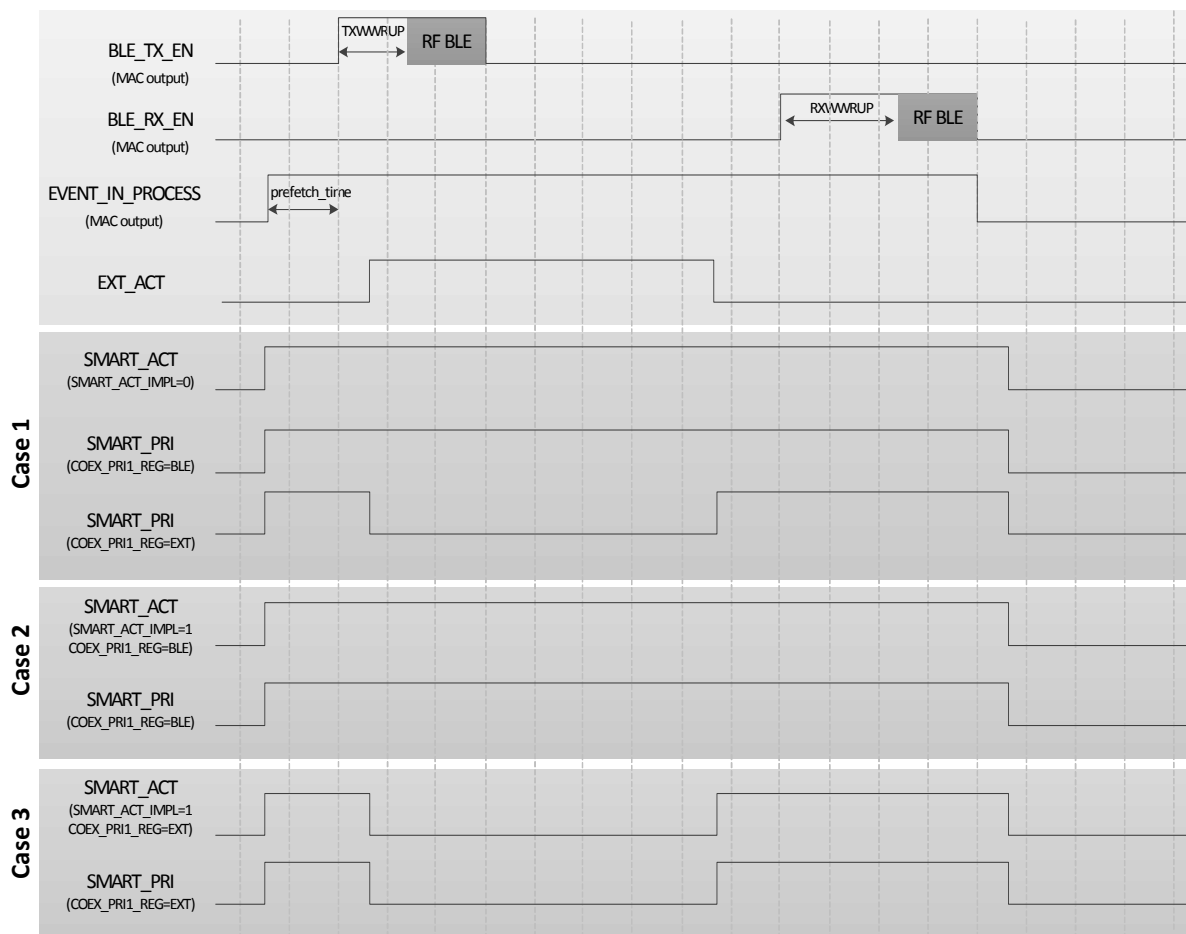

Figure 125: Coexistence signalling cases
2. SMART\_ACT: this is an output from the DA14681 and when asserted it designates that the DA14681 is transmitting or receiving hence an external device should be aware of the radio activity. The exact timing of the assertion of this signal is depicted in Figure 125.
An overview of the aforementioned scenarios is presented in Figure 125.